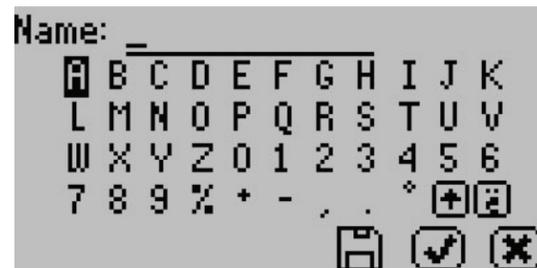

Figure 4 Keyboard screen to annotate data results
8. Autosave (default setting) retains the data without any annotation (Section 3.2.4.2). To add an annotation, select **SAVE**, add desired letters, and select **SAVE** again (Figure 4).